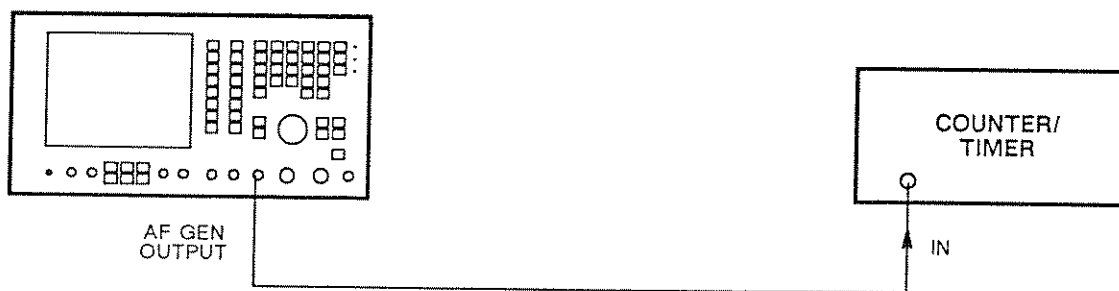

Fig. 6-14 Test equipment connections for AF generator frequency accuracy
- (1) Connect the counter/timer to the AF GEN OUTPUT socket. See Fig. 6-14.
- (2) On the 2955B, set the MODE to AUDIO TEST. Ensure that GEN 1 is ON and GEN 2 is OFF. Press the TONES and AUDIO SETUP keys. Set the GEN 1 FREQ to 15 kHz, LEVEL to 1 V and SHAPE to SINE.
- (3) Set the counter/timer to read period (to gain the required resolution).
- (4) On the counter/timer, check that the reading is between 66666.2 and 66667.1 ns (15 kHz ± 0.1 Hz).
- (5) Reset the GEN 1 FREQ to other frequencies between 100 Hz and 20 kHz and repeat (4) except check that the counter/timer readings are the same as the GEN FREQ setting ± 0.1 Hz.
- (6) Reset the GEN 1 FREQ to other frequencies between 10 Hz and 100 Hz and repeat (4) except check that the counter/timer readings are the same as the GEN FREQ settings ± 0.01 Hz.